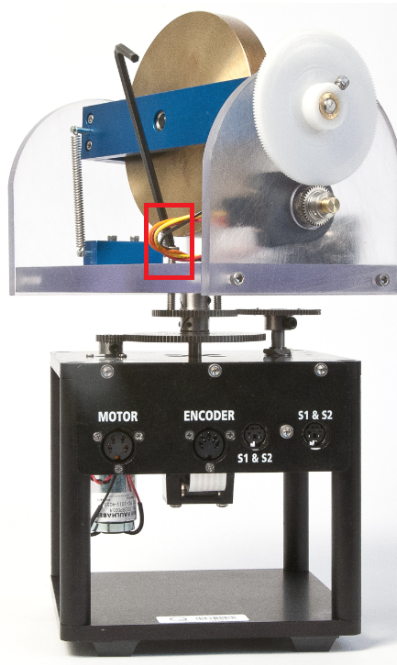

Figure 4.2: Tightening the GYRO-E module screws
3. Insert the two 8-32 1-inch capscrews into the two remaining holes on the GYRO-E module and rotate the module until the screws are aligned with the two holes on the SRV02 72-tooth gear. Tighten these screws using the provided 9/64 allen key as shown in Figure 4.2.